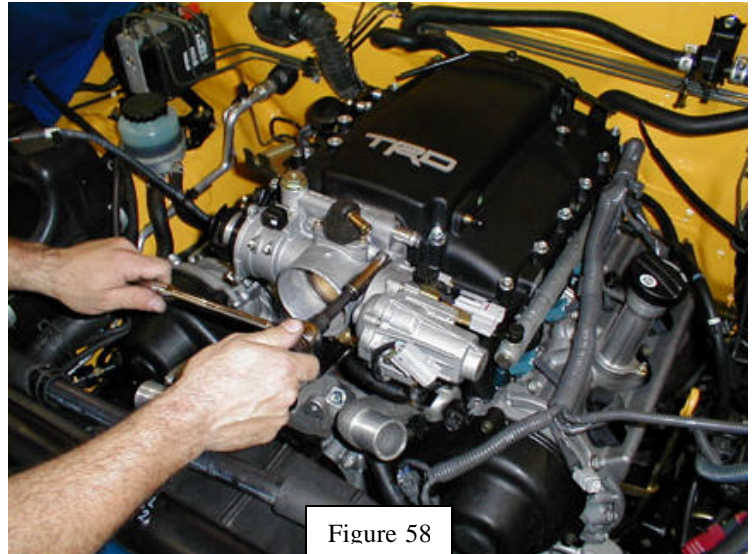

Figure 58
35. Re-use the OE throttle body gasket and install the throttle body. Use the 2 OE lower bolts and the 2 TRD-supplied upper bolts to secure the throttle body (Figure 58). Torque to 18 N·m (13 ft-lbf).